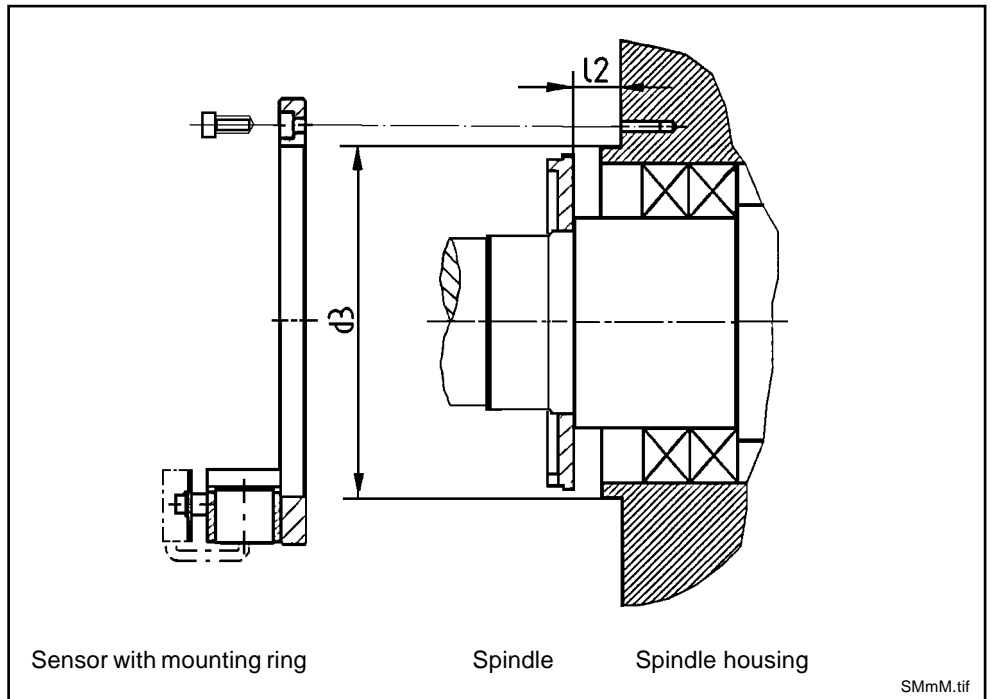
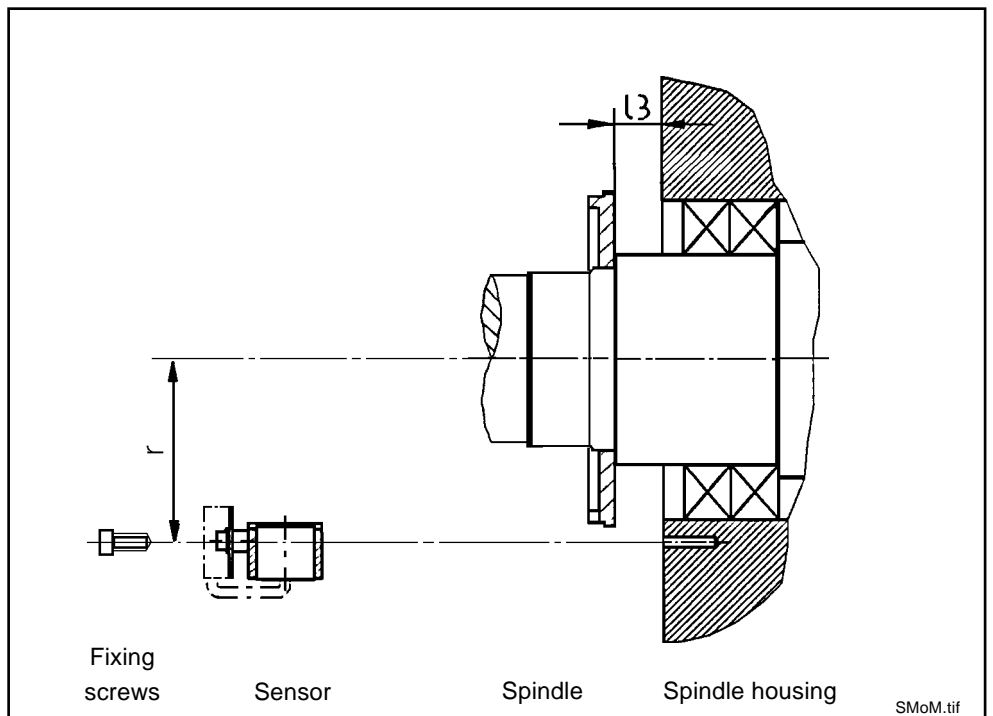

Figure 4.3: Installing the sensor with mounting ring
Figure 4.4: Installing a sensor without a mounting ring
- Do dimensions l3 and r (see Figure 4.4) on the spindle housing agree with the fixing dimensions (see sensor Figure 2.1, 2.2 or 2.4)?
- Does the inside diameter of the mounting ring agree with the pilot diameter d3 (see Figure 4.3)?
- Does dimension l2 (see Figure 4.3) on the spindle housing agree with the fixing dimensions (see sensor type Figure 2.3 or 2.5)?
- Check dimensions I2 (see Figure 4.3) and I3 (see Figure 4.4) with respect to the measuring wheel!